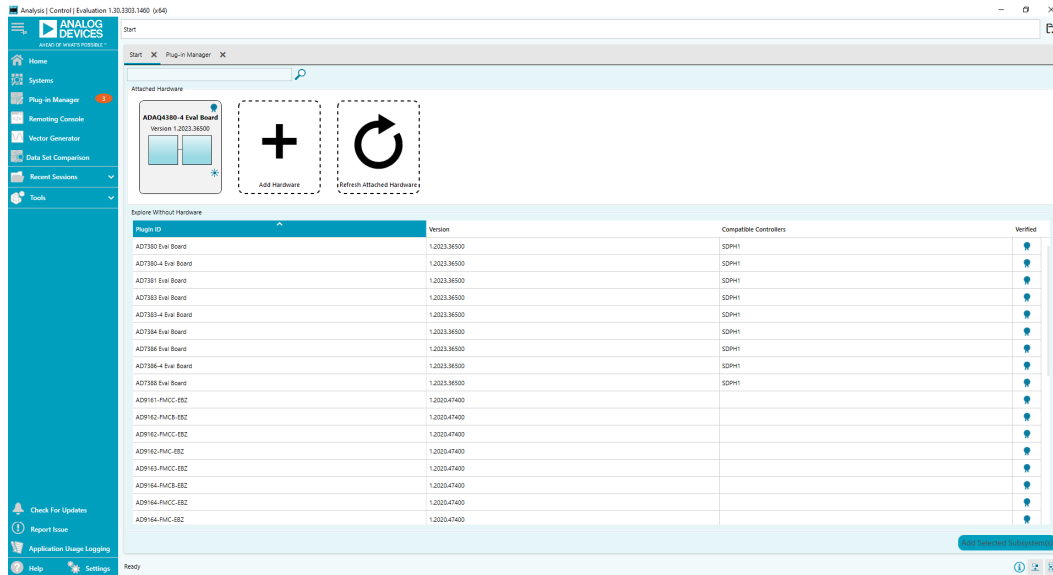

Figure 17. EVAL-ADAQ4380-4 ACE Software Main Window
1. From the **Start** menu, select **All Programs > Analog Devices > ACE > ACE.exe** to open the main software window, as shown in Figure 17.